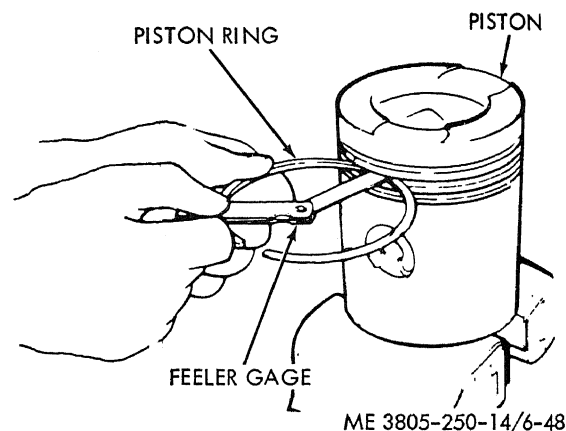

Figure 6-48. Piston ring side clearance check.
(10) Install piston rings (9) with the spring up or down.
(11) Check the side clearance of ring (9) as shown in figure 6-48. Side clearance should be